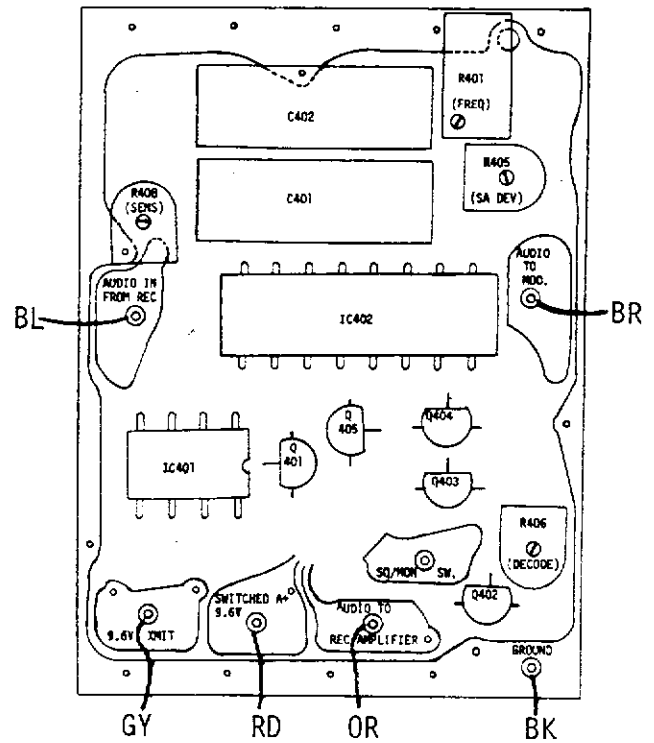

Figure 2-3. SA-44 Board
7. Refer to Figure 2-3, and make the following connections to the SA-44:
9. Insert circuit-board chassis in the transceiver housing by flexing side panel to clear slide switch; then, replace the six (6) chassis-mounting